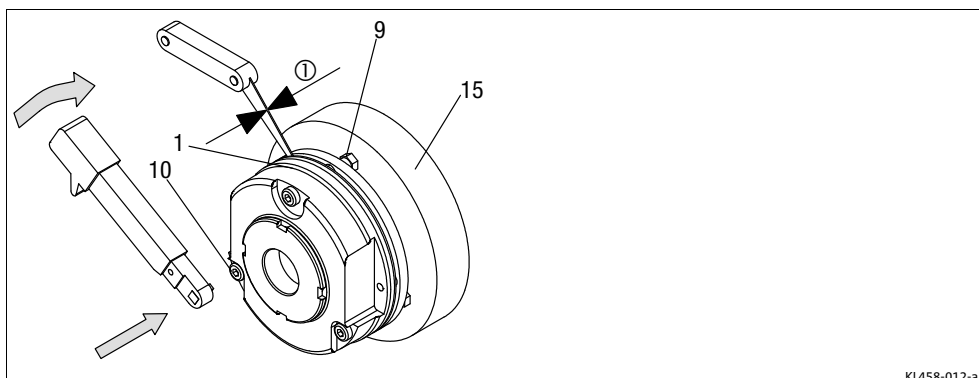

Fig. 5 Stator mounting
3. When assembling the stator (1), push the shaft sealing ring carefully over the shaft.
4. Use the screws (10) to mount the stator (1) completely to the end shield (15) (Fig. 5).